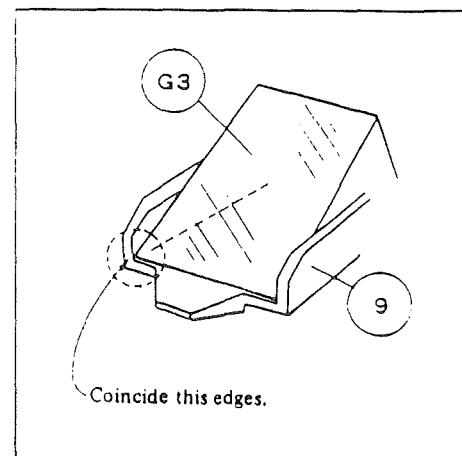

Fig. 24
- 7) Fix depression prism (G3) to the roller race with plastic screw (19), transitorily. (After adjustment, stick it using No. 2001) (Fig. 24)
- 8) Attach spring (22) with screws (23) and (54A) × 2 (Stick it to the entire surface of (23), using adhesive No. 921).
- 9) Assemble celluloid washer (21) and optical-path, change-over chamber (2) (containing (7)) into main body (1), and fix them with celluloid washer (14) and retaining ring (13), transitorily.